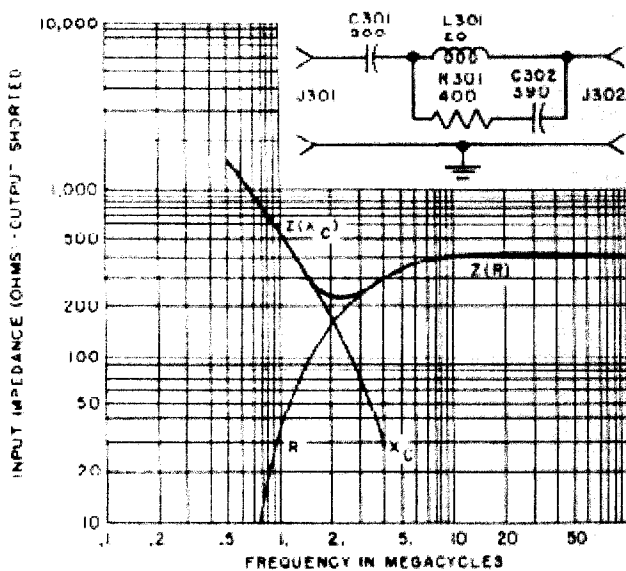

Figure 4-3. Dummy Load Impedance Curve
## 11. USE OF ELECTRICAL DUMMY LOAD DA-109/URM-25F. (See figure 4-3.)
c. It can be seen from figure 4-3 that the minimum impedance of the dummy load will be approximately 220 ohms at 2 megacycles. This impedance becomes much higher at lower frequencies and approaches 400 ohms at higher frequencies. When using the dummy load, it should be realized that a 20 percent maximum error may be introduced into the meter (M101) readings at 2 megacycles. If greater meter accuracy is required, the actual impedance of the dummy load should be determined from figure 4-3 at the frequency selected. For example, if the output frequency of the signal generator is 20 megacycles, it can be seen from figure 4-3 that the series impedance of the dummy load is approximately 400 ohms resistive. A meter indication of 10,000 microvolts then represents the input voltage to the dummy load.
e. For an accurate indication of the receiver output voltage, the impedance of the dummy load in series with the impedance of the equipment under test should total at least 500 ohms. From figure 4-3 it is apparent that the accuracy will be sufficiently good at frequencies above 5 megacycles. Below 5 megacycles, dummy load impedance falls approximately 220 ohms; to main-